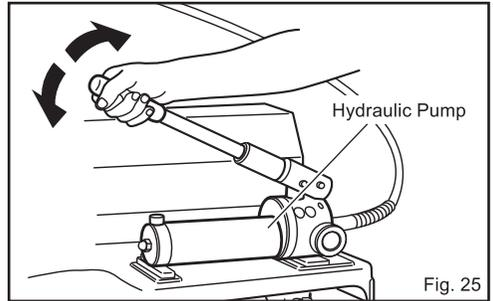

Fig. 25
5. Grooving(Fig. 25, 26)
- Operate the hydraulic pump to start processing the groove. Refer to the table below (Fig. 25)